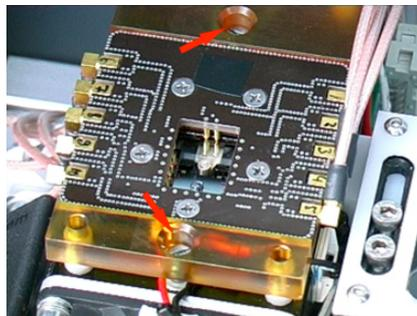

Figure 3. Installation of LOC chips. Chips are inserted into the chip-holder via screw-operated “click-fastening mechanism”.
- For installing a chip, the contacting lid for the high frequency support of the chip-holder is opened by turning both screws and release the click-fastening mechanism (**figure 3**, red arrows); carefully remove SAW control lid and put in a chip preferably fixed to the left corner of the cavity for being optimally connected to IDTs by gold contacts and gold contact pins.